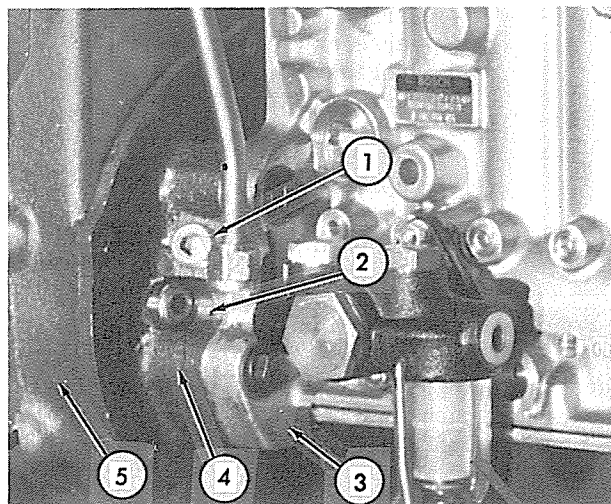
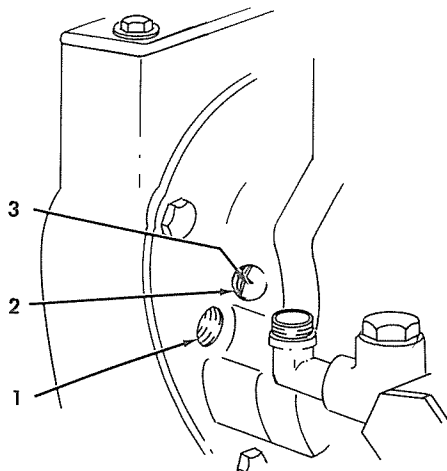

Fig. 5 Fuel Injection Pump Timing Window
Fig. 8 Injection Pump Timing Marks
1. Remove pipe plug, Fig. 5 (1). Rotate engine until timing marks on drive gear hub, Fig. 8 (3), and timing pointer are aligned (these marks are visi-
7. Remove capscrews securing pump mounting cover, Fig. 5 (4), to timing gear housing (5). Pull pump back and swing it away from the cylinder block just as the pump drive gear clears the timing gear housing. If removal of the pump at this point cannot be accomplished due to interference at the front valve lifter cover, remove cover to gain additional clearance.